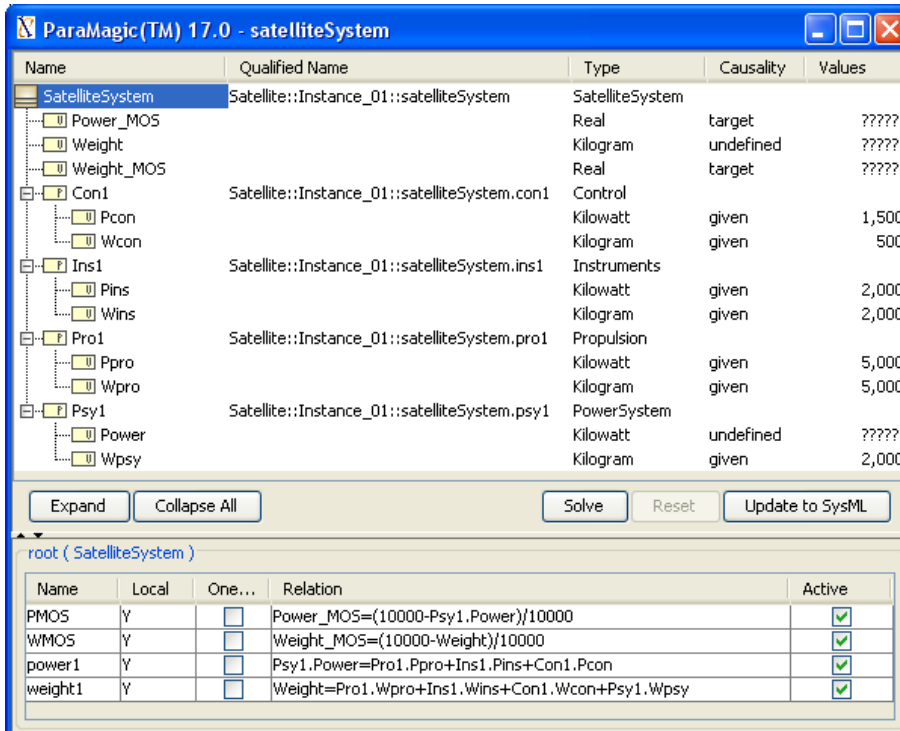

Figure 3.11 ParaMagic Browser for Instance_01, before solution
- c. Repeat step c. for all the variables as shown in Figure 3.11. Note that **Power_MOS** and **Weight_MOS** are reassigned to *target* causality.